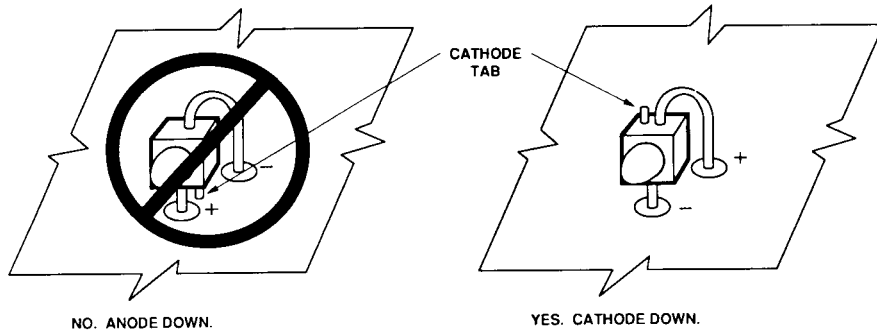

Figure 1. Proper Right Angle Mounting to a PC Board to Prevent Protruding Cathode Tab from Shorting to Anode Connection.
*Refer to Figure 1 for design concerns.